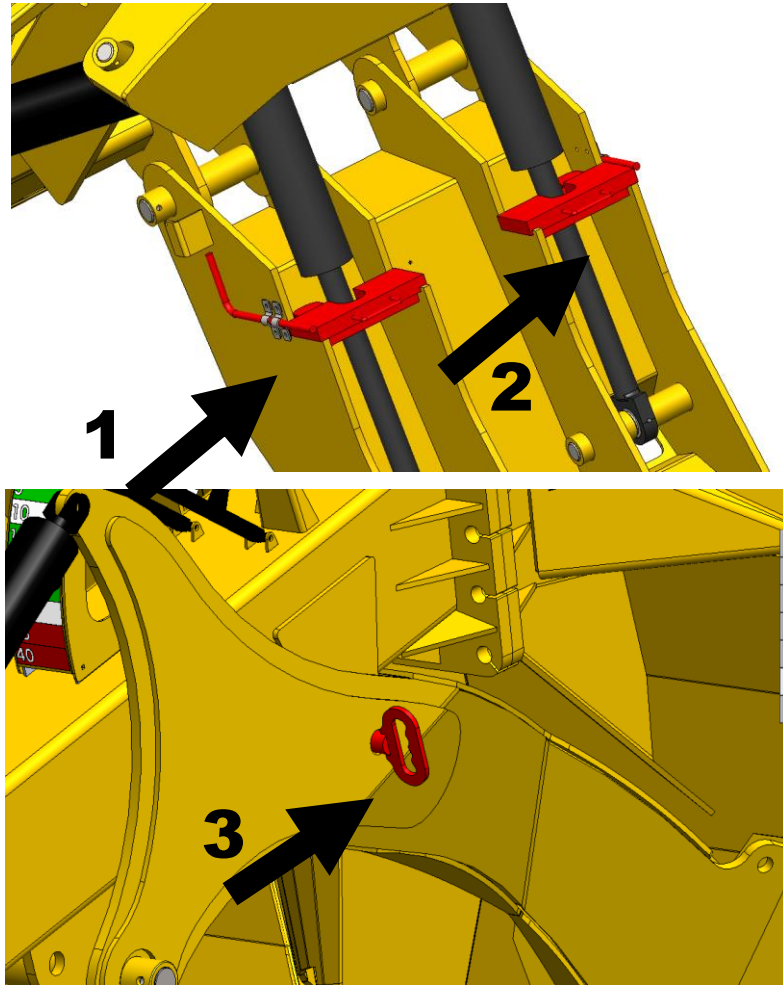

Figure 1: Shows the safety locks marked by arrows
When storing the 2450 Pulldozer Transformer make sure and apply the lift cylinder safety locks, (1 & 2) in figure 1, and trencher safety lock (if equipped), (3) in figure 1. Put wood blocks underneath the blades so it doesn't sit in the ground. Apply grease to all exposed hydraulic cylinder shafts.